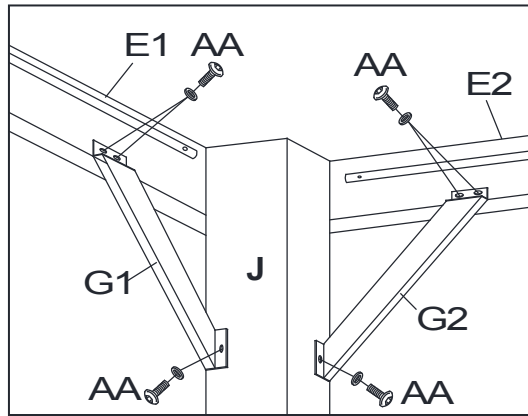

Fig.5
5. Attach the Left Support Bar (G1) to Left Lintel (E1) and Post (J) with Bolt (AA); attach the Right Support Bar (G2) to Right Lintel (E2) and Post (J) with Bolt (AA). See Fig.5.